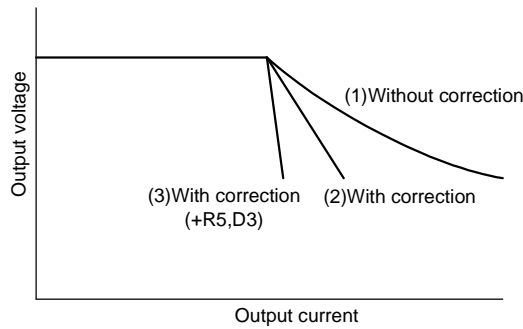

Fig.27
The output power at overvoltage is limited by the overcurrent limiting function of the IC. However, in general, the characteristics that the voltage is reduced while the current is increased is shown as indicated in “(1) Not corrected” in Fig. 27.